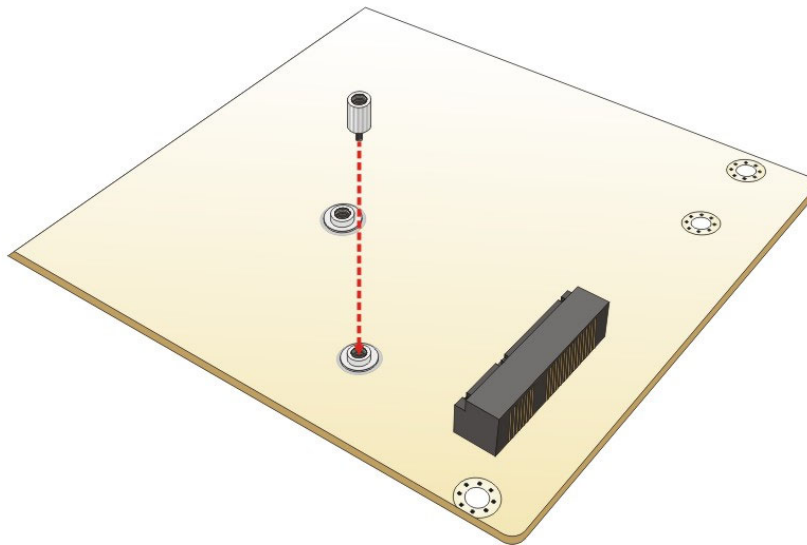

Figure 4-11: Installing the Standoff
Step 4: Install the standoff to the screw hole for the half-size PCIe Mini card. Install the previously removed standoff to the screw hole for the half-size PCIe Mini card (Figure 4-11).